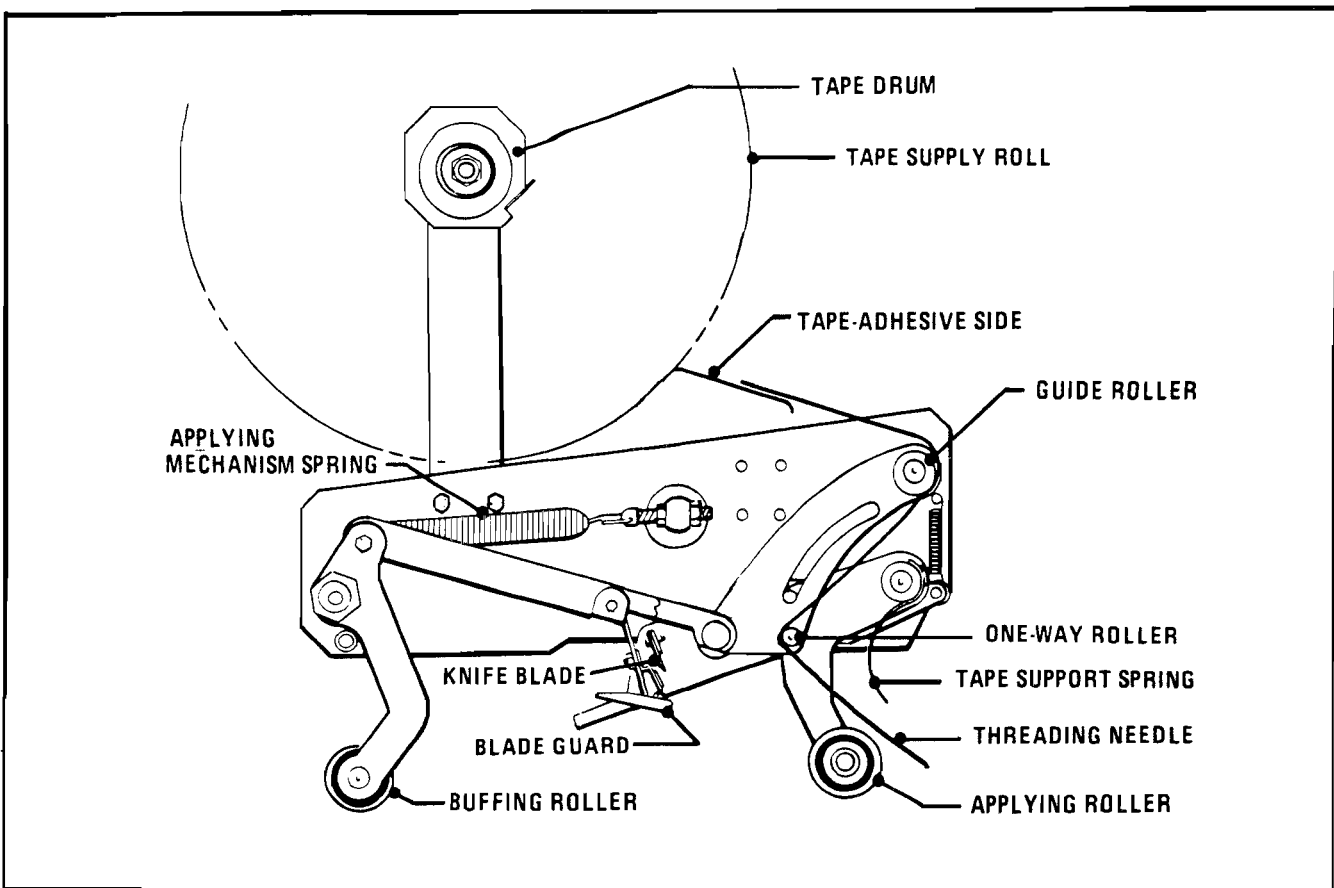
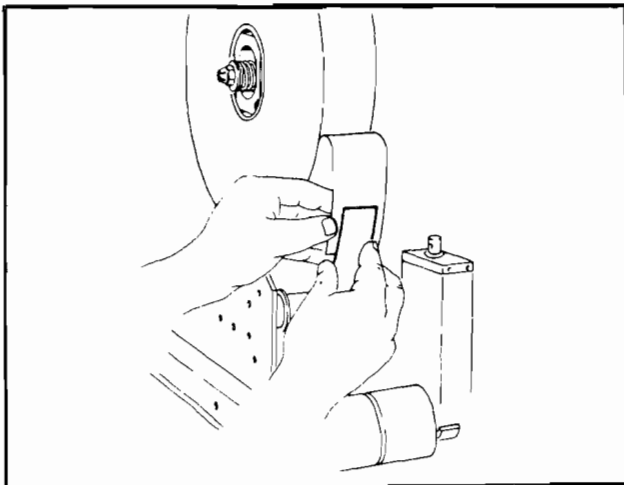

FIGURE 7 - TAPE THREADING DIAGRAM - TOP TAPING HEAD - LEFT SIDE VIEW
FIGURE 7C - LOAD TAPE ROLL
- 1) BOTH THE TOP AND BOTTOM TAPING HEADS UTILIZE EXTREMELY SHARP KNIFE BLADES ON THE ORANGE CUTTER LEVER ASSEMBLY AND WHICH ARE LOCATED UNDER THE GREY PLASTIC BLADE GUARD WHICH HAS THE "CAUTION - SHARP KNIFE" LABEL. BEFORE WORKING WITH THE TAPING HEADS OR ATTEMPTING TO LOAD THE TAPE, REFER TO FIGURE 7 AND IDENTIFY THE BLADE LOCATION. KEEP HANDS OUT OF THESE AREAS EXCEPT AS NECESSARY TO SERVICE THE TAPING HEADS.
- 2) NEVER MANUALLY PUSH THE APPLYING ROLLER ARM DOWN AS THIS WILL RETRACT THE BLADE GUARD AND PUT YOUR HAND IN MOTION TOWARDS THE TEETH OF THE SHARP KNIFE BLADES. REFER TO FIGURE 7 AND IDENTIFY THE APPLYING AND BUFFING ROLLERS. WHEN NECESSARY TO MANUALLY ACTUATE THE TAPE APPLYING MECHANISM, ALWAYS PUSH THE BUFFING ROLLER ARM AS IT WILL NOT DIRECT YOUR HAND TOWARDS THE KNIFE BLADE TEETH.
The taping heads are equipped with a blade oiler pad that provides a film of oil on the cut-off blade to reduce adhesive build-up. Locate the oiler pad attached to the blade guard assembly, shown in figure 7, and apply SAE #30 non-detergent oil as needed. DO NOT SATURATE.
- 2) With the temporary threading needle already in position, as shown in figure 7, follow the tape loading procedure from figure 7C to complete the tape threading.
Figure 7C - Place tape roll on drum to dispense tape from bottom of roll toward guide roller with tape adhesive side up. Seat tape roll fully against back flange of drum. Adhere tape lead end to upper end of threading needle as shown.